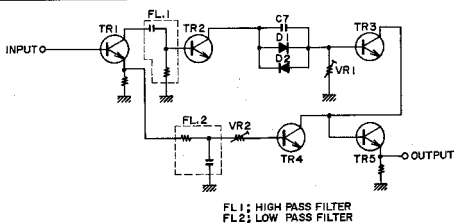

Fig. 33 A.N.R. AMP. BLOCK DIAGRAM
2. A.N.R. OPERATION AND CHARACTERISTICS (Refer to Fig. 33 & 34)